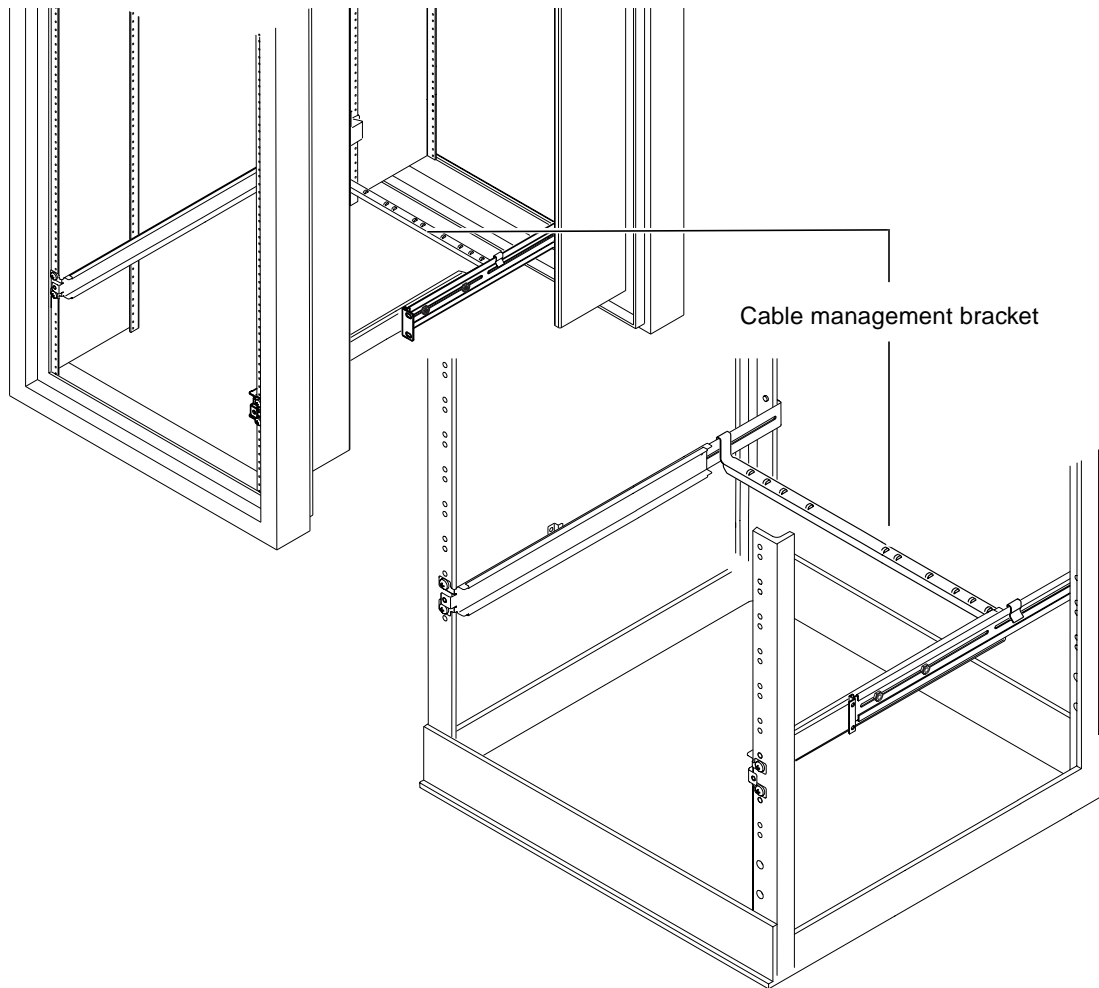

FIGURE 5-9 Fitting the Cable Management Bracket to a Sun StorEdge or a Standard 19-Inch Rack
- Hook the bracket over the slide mounts at the rear of the server (see FIGURE 5-9). You can use the loops in the bracket to secure the cables with cable ties.